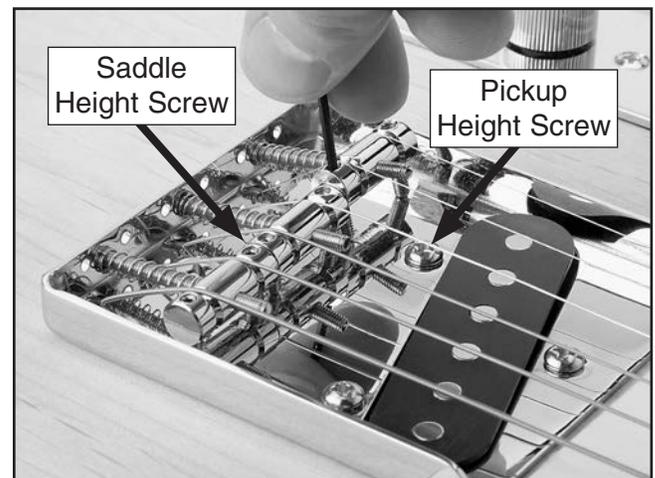

Figure 33. Adjusting string height.
3. Use the included 1.5mm hex wrench to adjust the saddle height set screws (see **Figure 33**) until the string heights are correct.
3. The string height may be adjusted for the bridge pickup by turning the three screws shown in **Figure 33**, on **Page 28**. Adjust the screws using the method described in **Steps 1–2**.